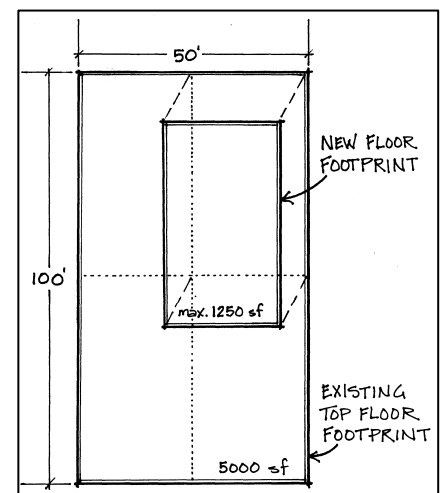

Figure 4 – Maximum Area
- New floors should be no more than $\frac{1}{4}$ the area of the top floor of the building on which it is placed. (Fig. 4)